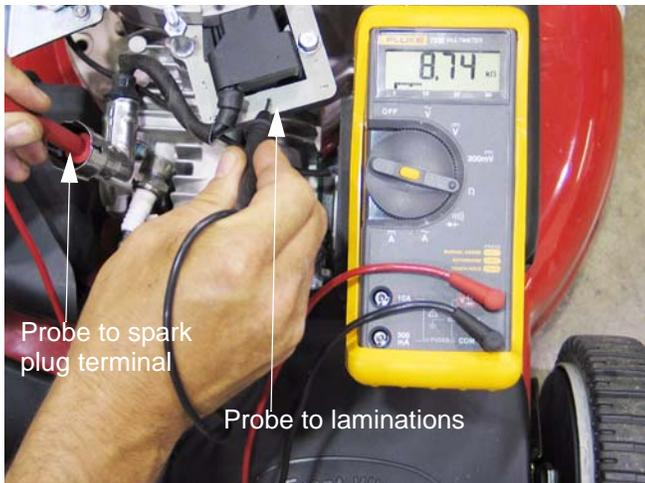

Figure 4.13
- 3h. Resistance in the secondary windings of the ignition module, measured between the spark plug terminal and the laminations, was observed to be in the 8K-9K Ω range. See Figure 4.13.